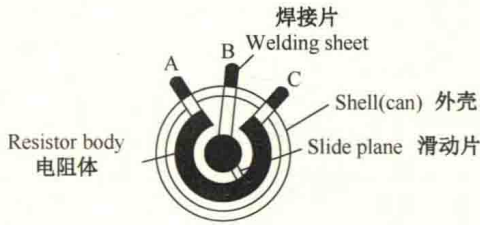

Figure 1.6 Structure of Potentiometer 电位器的结构
2) Adjustable Resistor 可变电阻 (Figure 1.6~1.7)